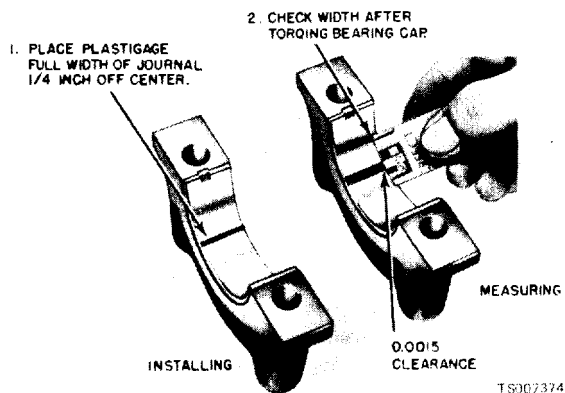

Figure 6-45. Fitting Bearings with Plastigage.
(1) Place a piece of Plastigage on bearing surface across full width of bearing cap and about 1/4 inch off center (fig. 6-45).